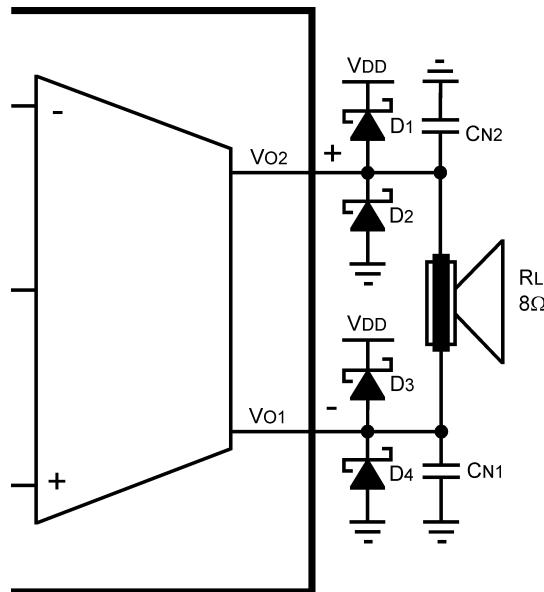

FIGURE 2. Increased Supply Voltage Operating Range for the micro SMD package
**Note 11:** The LM4665 in the micro SMD package (ITL) has an operating range of 2.7V - 3.8V for 8 $\Omega$  speaker loads. The supply range may be increased as speaker impedance is increased. It is not recommended that 4 $\Omega$  loads be used with the micro SMD package. To increase the supply voltage operating range, see Figure 2 and **INCREASING SUPPLY VOLTAGE RANGE** in the **Application Information** section for more information.
When using the micro SMD package (ITL), the operating supply voltage range is 2.7V - 3.8V with an 8 $\Omega$  speaker load. To increase the operating supply voltage range, four Schotcky diodes ( $D_1$  -  $D_4$ ) can be used to control the over and undershoot of the output pulse waveform (See Figure 2 below). To reduce THD+N, small value capacitors in the range of 10pF - 33pF ( $C_{N1}$  &  $C_{N2}$ ) can also be added as needed. The diodes should be placed as close to the micro SMD package as possible.